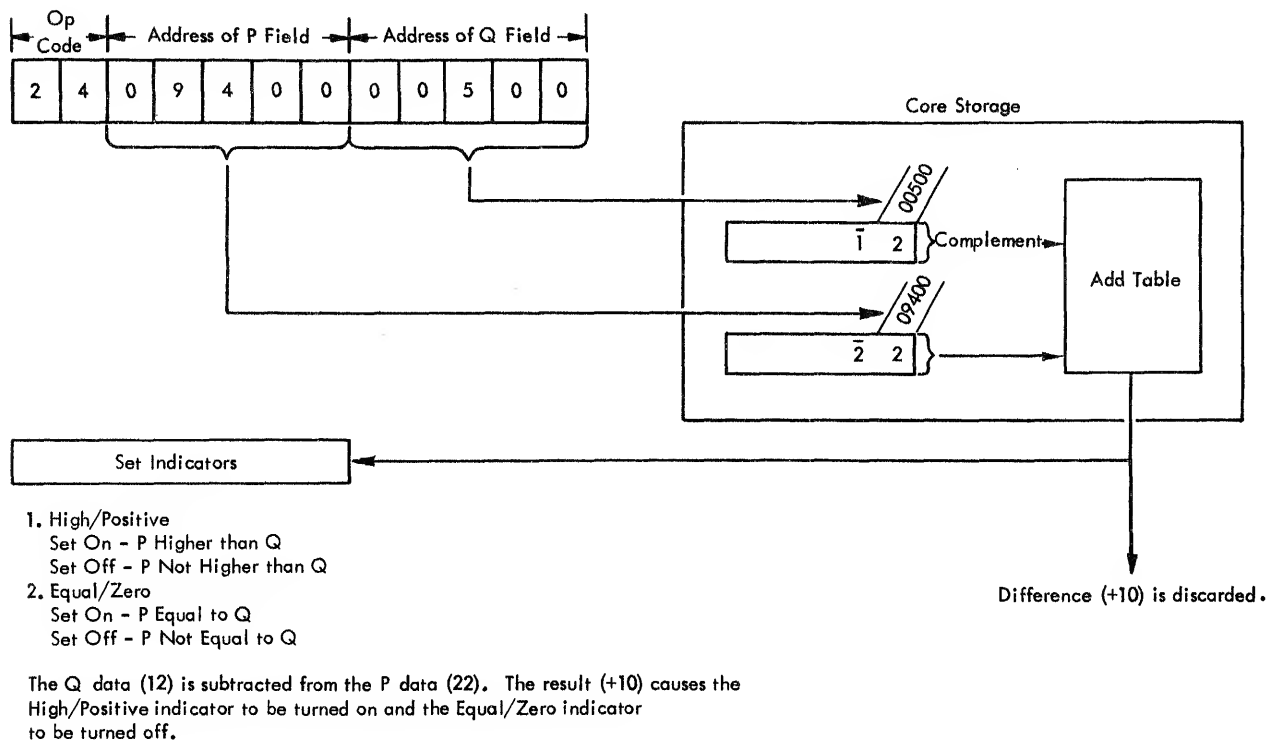

Figure 35. Compare Instructions - Data Flow
In Figure 35 the Q address data (12) is subtracted (complement-added) from the P address data (22). The difference ( $+10$ ) is discarded and the indicators are set as follows: